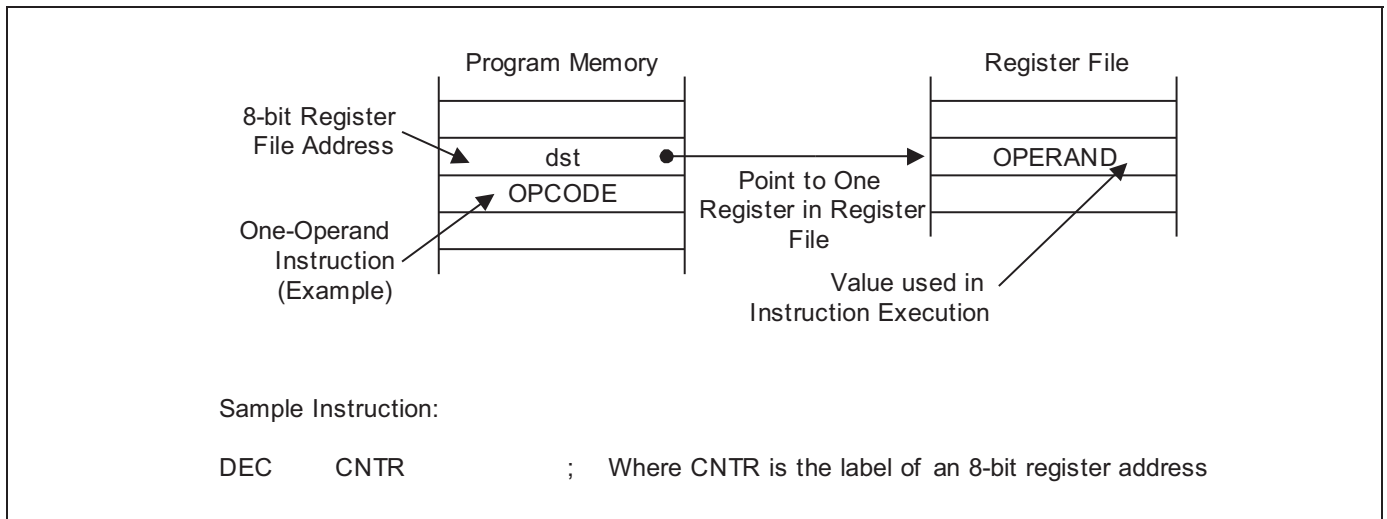

Figure 3-1 Register Addressing
- Register (R)
- Indirect Register (IR)
- Indexed (X)
- Direct Address (DA)
- Indirect Address (IA)
- Relative Address (RA)
- Immediate (IM)
3.2 Register Addressing Mode (R)
In Register addressing mode (R), the operand value is the content of a specified register or register pair. (Refer to Figure 3-1 for more information).
Figure 3-1 illustrates the register addressing.